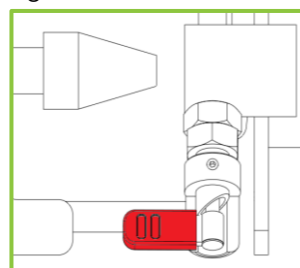

Figure 22 – Plunger Open
2. Turn the levers on the two plungers towards the front of the chair until they latch. The lever arm plungers are now locked in the open position. (Fig 22).